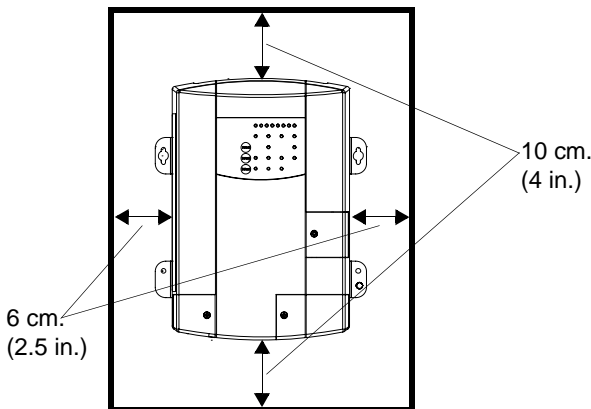

Figure 2-3 Ventilation Clearance
Ventilated	There must be at least 10 cm (4 in.) of clearance on the top and bottom ends of the Truecharge™ 2 Battery Charger for air flow and at least 6 cm (2.5 in.) of clearance on either side (see Figure 2-3). Ventilation openings on the charger must not be obstructed. If the charger is mounted in a tight fitting compartment, the compartment must be ventilated with cut-outs to prevent the charger overheating.
1. Select a mounting surface that is flat and allows for a minimum of 10 cm (4 in.) of clearance on the top and bottom ends for air flow and at least 6 cm (2.5 in.) of clearance on either sides (see Figure 2-3, “Ventilation Clearance” on page 2–7).